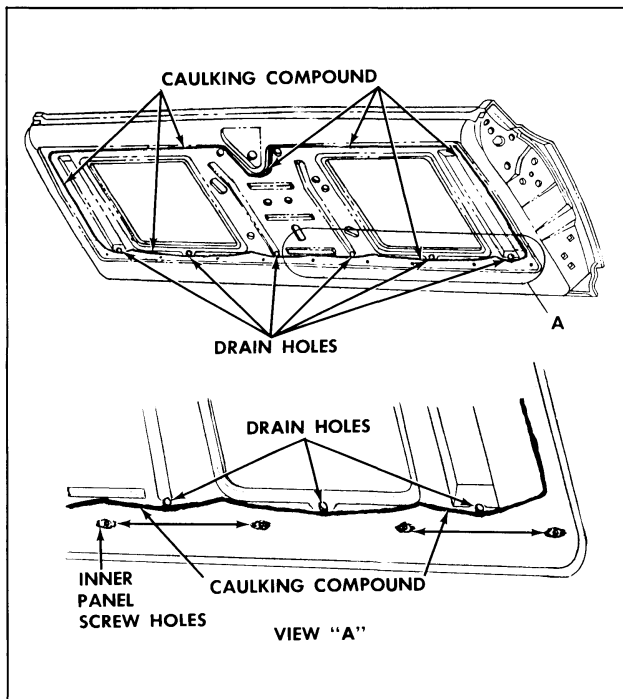

Fig. 14-16 Caulking Applied to Inner Panel
3. Apply a bead of body caulking compound (approximately 3/16" diameter) to inner panel (Fig. 14-16).
Also apply body caulking compound over each of the inner cover panel attaching screw holes across the bottom of the tail gate (Fig. 14-16).